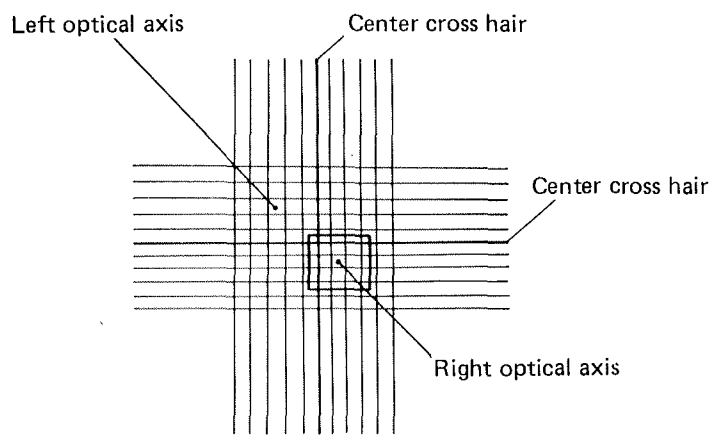

Fig. 11-19
e) When the right and left optical axes are compared with each other in Fig. 11-19, for example, the right optical axis is nearer the center cross hair on KN0005. In this case, the left optical axis must therefore be adjusted within 2 divisions of the right optical axis on the scale of KN0005 (within the black enclosure). (See Fig. 11-19)